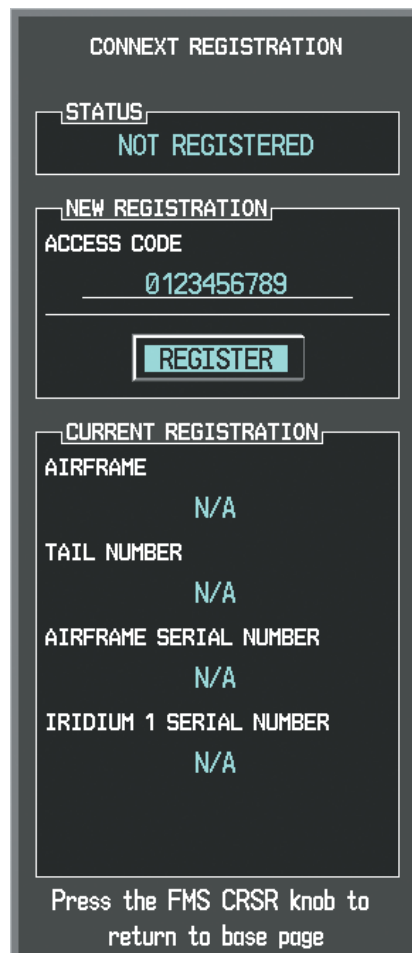

Figure 6-56 Enter Access Code
5) Press the **ENT** Key. The system displays the CONNEXT REGISTRATION Window as shown in Figure 6-56.
- 7) Press the **ENT** Key. 'REGISTER' will now be highlighted as in Figure 6-56.